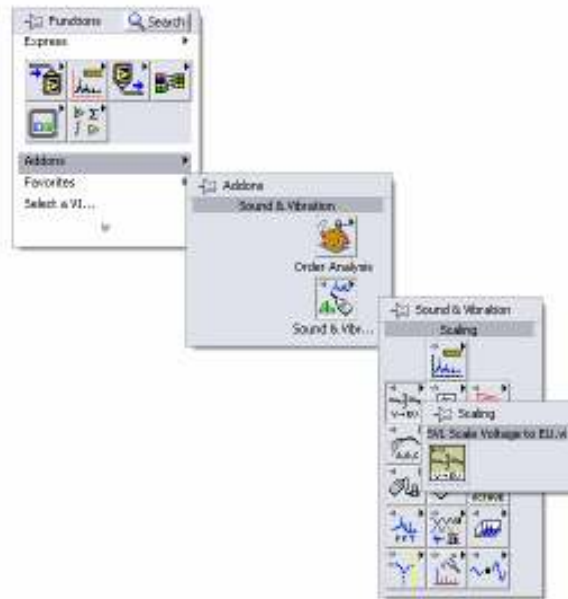

**Figure 1-3.** Sound Level Meter Block Diagram
3. Go to the block diagram by pressing Ctrl+E. The block diagram will look like Figure 1-3.